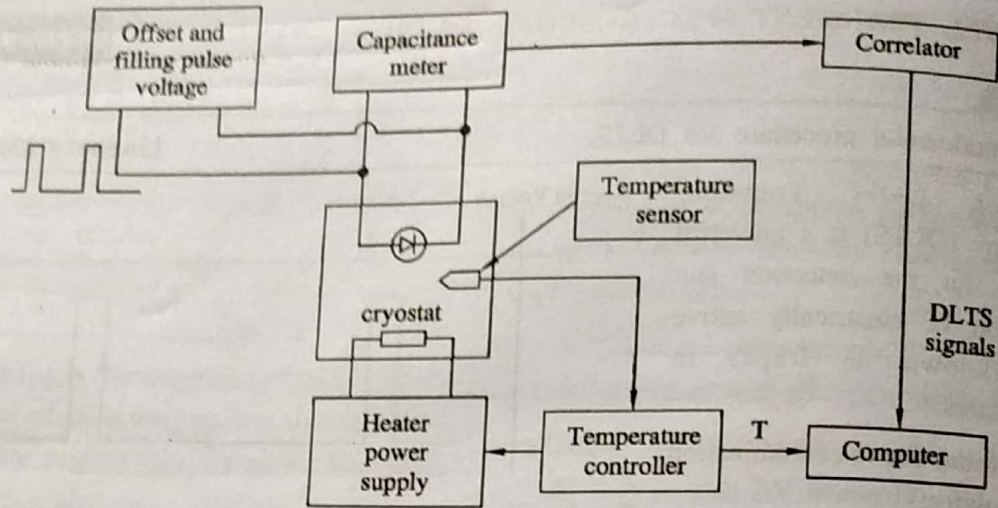

FIG. 4.8 : BLOCK DIAGRAM OF THE DLTS SYSTEM
- A block diagram of the Technologies Deep Level Spectrometer is shown in Fig. 4.8.